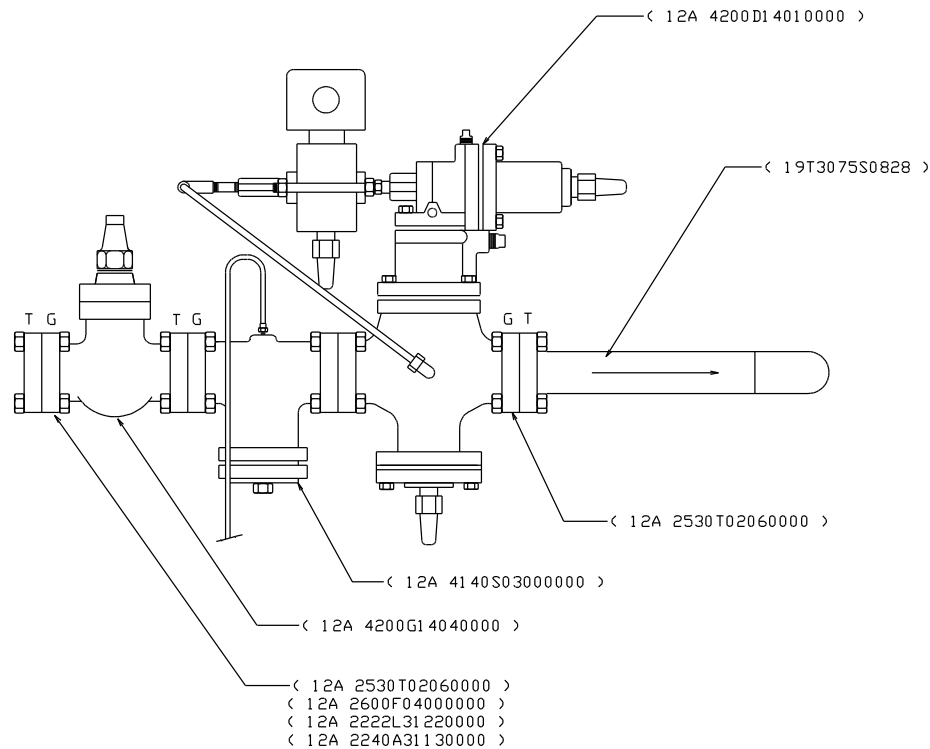

Figure 9-7
The Thaw Gas Solenoid Valve (18), Figure 9-7, is opened during the thaw cycle to allow warm gas to pass from the receiver to the freezer. Repair or replace as follows:
2. Close the two hand stop valves (90) tight on either side of solenoid valve when there is vapor only in that part of the line.